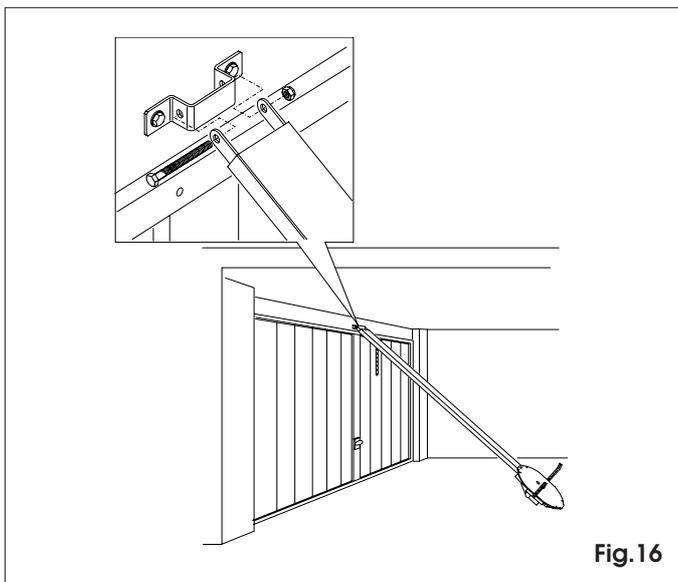

Fig. 16
7.6 Place the operator on the ground, lift up the sliding longitudinal member and step toward the bracket - fit the screw and tighten the nut (fig. 16).